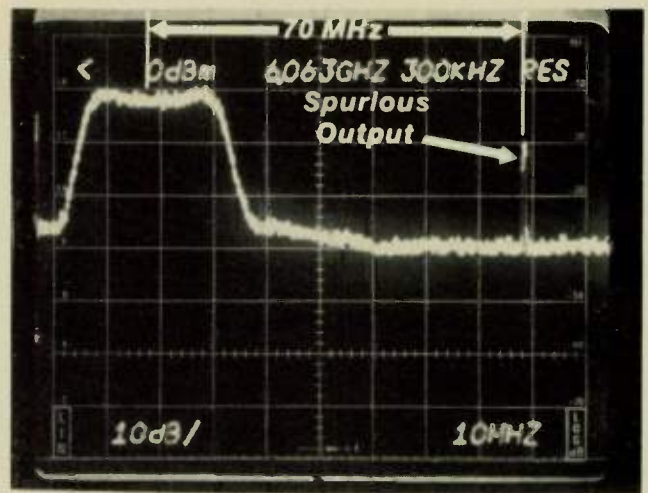

Fig. 12 Spurious output at 70-MHz IF offset.
**Spurious Outputs:** The spectrum analyzer is an excellent tool in checking for spurious outputs. Figure 12 shows a spurious signal offset by the 70 MHz intermediate frequency above the 6 GHz main signal.